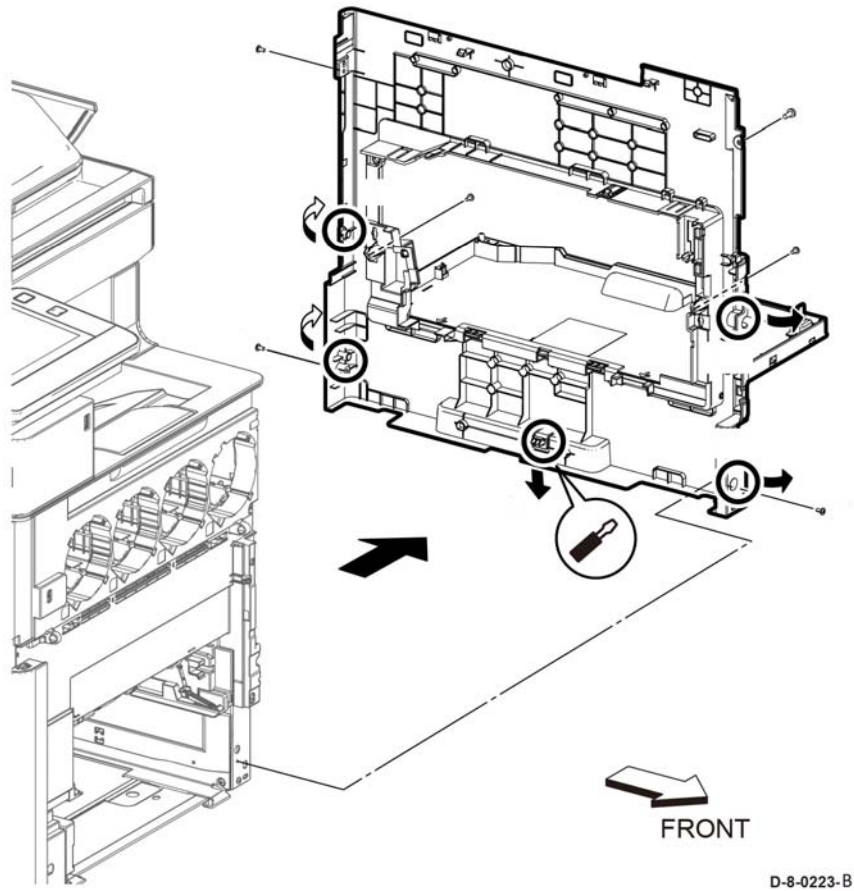

Figure 2 Remove the right side cover assembly (C505/C605/C605_Tall)
8. Refer to Figure 2, remove one screw (ST6, silver, tapping, M4X10mm) and five screws (SM18, silver, M3X6mm).
9. Refer to Figure 2, release one hook and one boss at the front of the R side cover assembly, PL 19.1 Item 97.
10. Refer to Figure 2, release one hook at the bottom of the right side cover assembly.
11. Refer to Figure 2, release two bosses at the rear of the right side cover assembly and remove the right side cover assembly.